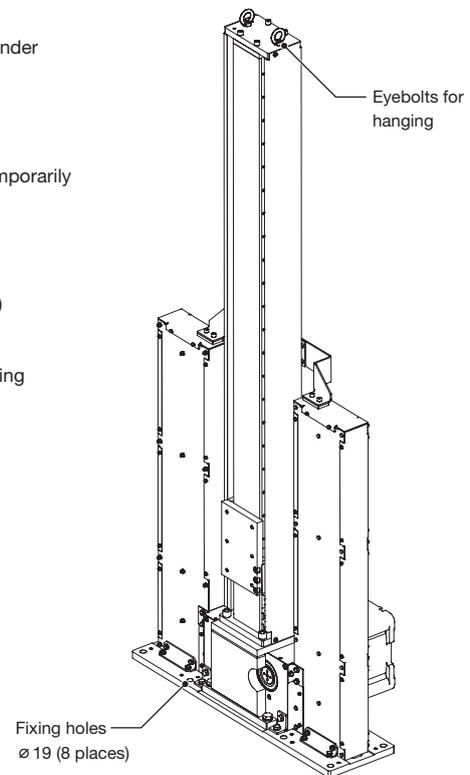

Fig. 1 – Reading the nameplate
- ▶ Check the nameplate to verify the model number (1), manufacturing number (2), and drawing number (3) match the requested product (see Fig. 1).